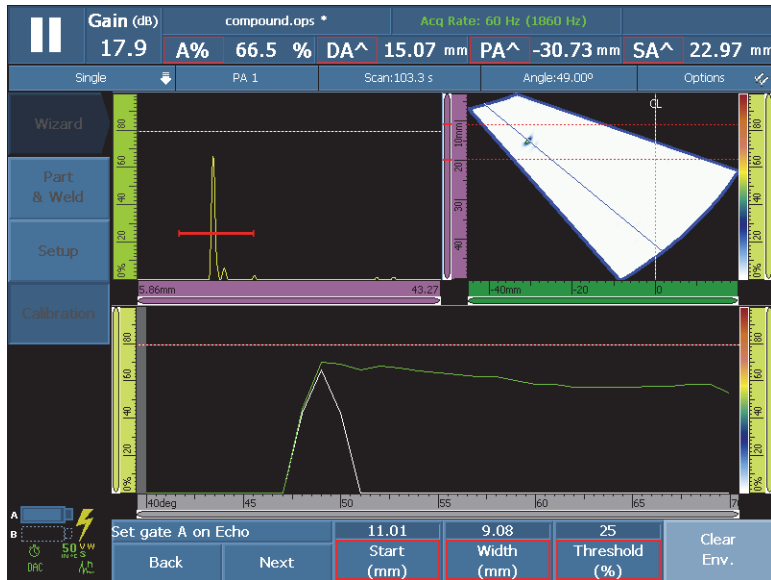

Figure 5-19 Set Gate A on Echo for a PA group
- a) In the **Start** and **Width** buttons, enter the start and width of gate A, ensuring that the signal from the first reflector signal crosses the gate in the middle, and that the gate is wide enough to contain the complete width of the signal (see the **A-Scan** view in Figure 5-19 on page 137).
- b) Set the **Threshold** value so that the signal crosses the gate on every aperture, as seen in the **Calibration: DAC** view of Figure 5-19 on page 137.